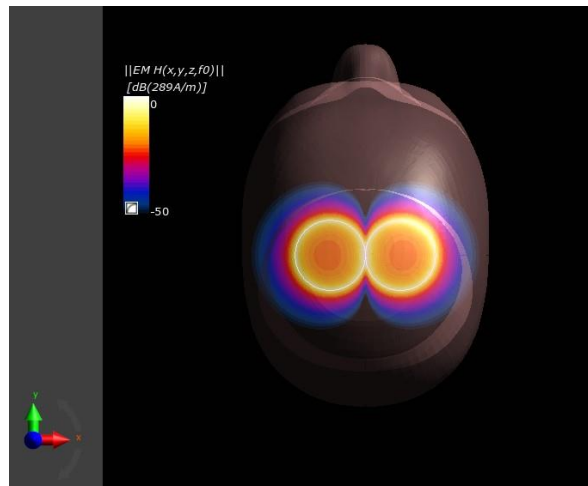

Fig.4.H-field distribution.
6. Press the *Refresh* button at the top of the *Properties* window. The plot should look like in fig.4.